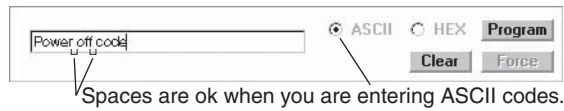

Figure 4-9 — Code entry (ASCII code)
- c. Enter the desired code in the code window (figure 4-9).
NOTE Codes that are intended to be hex codes must be in pairs (such as 03 or DE). Use a leading 0 if necessary. Letters must be uppercase. Spaces between bytes are acceptable in ASCII codes (figure 4-9), but are not allowed in hex codes (figure 4-10).